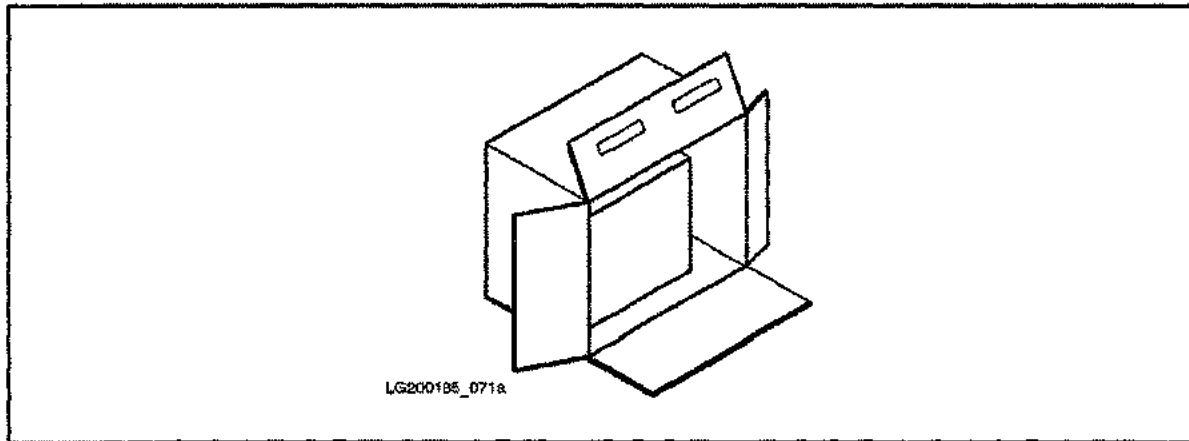

Figure 3-3. Raising the Flap
5. Open the top flap. See Figure 3-3. Reach into the shipping box and grasp the computer on the left and right side.